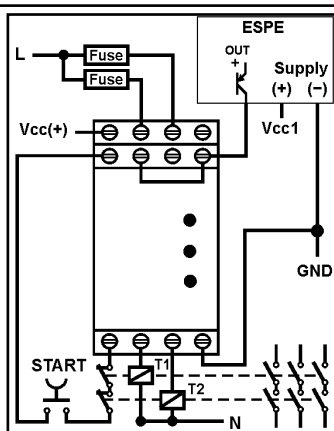

Fig. 5: ESPE: 1 uscita PNP a 1 filo /
- ESPE with one one-wire output (PNP-type or relay-type): connect the output to the S12 terminal; short-circuit the terminals S12 with S21, leaving S11 and S22 not connected (fig. 5, 6, max safety cat. 2).
In Fig. 5 and 6 are shown the connections of ESPE with 1 one-wire output: the ESPE output is connected to S12 and S12 is short-circuited to S21. The category of the application can reach up to category 2 according to the EN 954-1 and EN13849-1 standards.